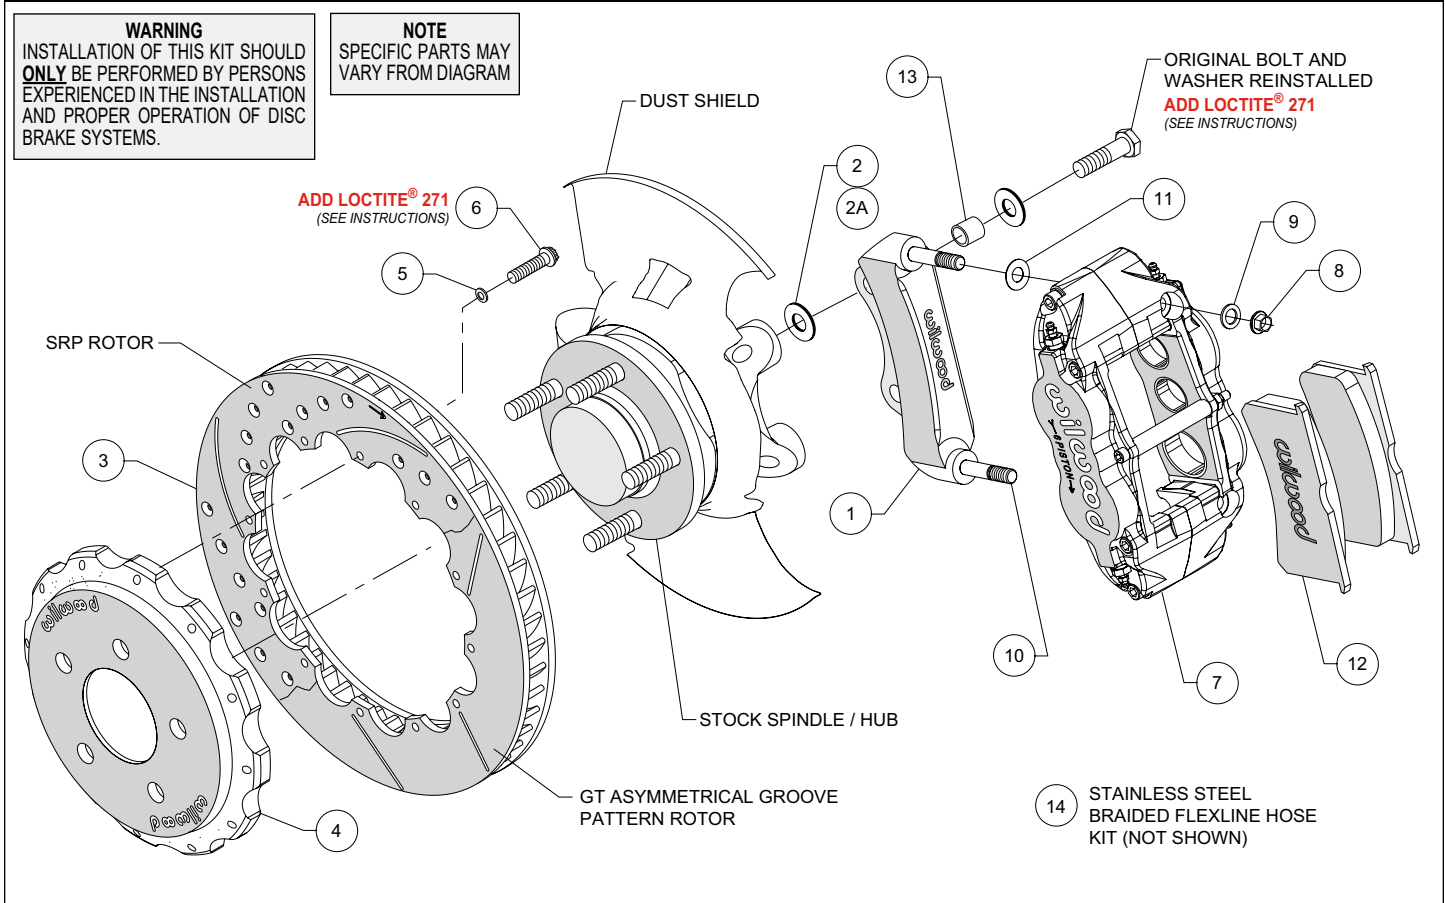

Figure 1. Typical Installation Configuration
- The caliper mounting bracket assembly (1) should be installed first with clean, dry threads on the mounting bolts. Install the bracket from the rear side of the spindle by sliding the original stock bolts through washer, sleeve (13) (sleeve only utilized on 2004 model year), and bracket (1). Place shim washer (2 or 2A for 2004 model year) between the bracket (1) and the spindle (see Figure 1). The bracket must tighten squarely against the side of the spindle body. Inspect for interference from casting irregularities, machining ridges, burrs, etc. Use one thin shim (2 or 2A) between the bracket (1) and spindle during initial trial fitting.
- NOTE:** *This kit contains distinct right and left hand calipers that must be mounted in a specific direction, as described below.* Initially place one .035" thick shim (11) on each stud (10) as shown in Figure 1. Mount the caliper (7) onto the bracket (1) using lock nuts (8) and washers (9), Figure 1. Ensure that the caliper is mounted so that the largest pistons are at the rotor exit end of the caliper, in relation to the direction of rotor rotation. Temporarily tighten the lock nuts and view the rotor through the top opening of the caliper. The rotor should be centered in the caliper. If not, adjust by adding or subtracting shims (2 and/or 2A) between the bracket and the upright. Always use the same amount of shims on each of the two mounting bolts. Once the caliper alignment is correct, remove the bracket mounting bolts one at a time, apply red *Loctite*® 271 to the threads, and torque to manufacturer's specifications.
- Remove the caliper center bridge pad retainer bolt, nut, and tube from the caliper. Slide the brake pads (12) into place. They should install easily without interference. Check that the outside radius of the brake pad is aligned with the outside diameter radius of the rotor face. Add or subtract shims (11) between the caliper and mount bracket to gain the proper alignment. Reinstall the center bridge pad retainer tube, bolt, and locknut. The locknut should be snug without play in the bolt or tube. Be cautious not to over tighten.
- Once all clearances have been checked, remove the wheel, caliper, hat, and rotor from the spindle and hub. Secure the caliper mounting bracket (1) to the spindle with original stock bolt using red *Loctite*® 271. Torque the bolts to manufacturers specifications. Reinstall the hat and rotor assembly and again use lug nuts to hold it in place. Reinstall the caliper and torque the caliper nuts (12) to 30 ft-lb.
- NOTE:** *OEM rubber brake hoses generally cannot be adapted to Wilwood calipers. The caliper inlet fitting is a 1/8-27 NPT (use PTFE tape on pipe threads of adapter fitting for proper sealing to caliper).* Install Wilwood hose kit included in this kit (14), P/N 220-14177, which includes hoses, fittings, etc., all in one package for this application, Photo 1. Minor repositioning of the hard line is required to align it with the new fitting location. **Carefully route lines to prevent contact with moving suspension, brake or wheel components.** Wilwood hose kits are designed for use in many different vehicle applications and it is the installer's responsibility to properly route and ensure adequate clearance and retention for brake hose components.